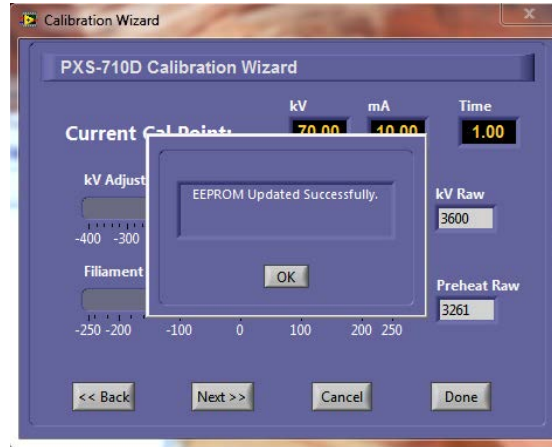

Figure 2.8
- n. Once the new calibration settings are saved, a confirmation dialog is displayed. Click on 'OK' to proceed, you will be returned back to the "Calibration Menu". Ref fig 2.8